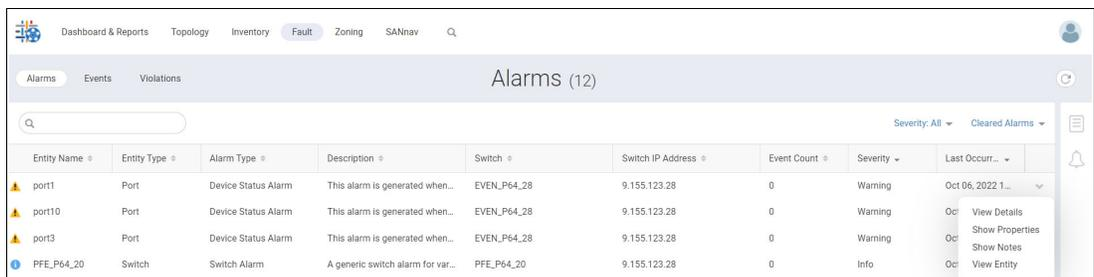

Figure 5-187 View Entity
2. Select **View Entity** from the action menu of an alarm (Figure 5-187).